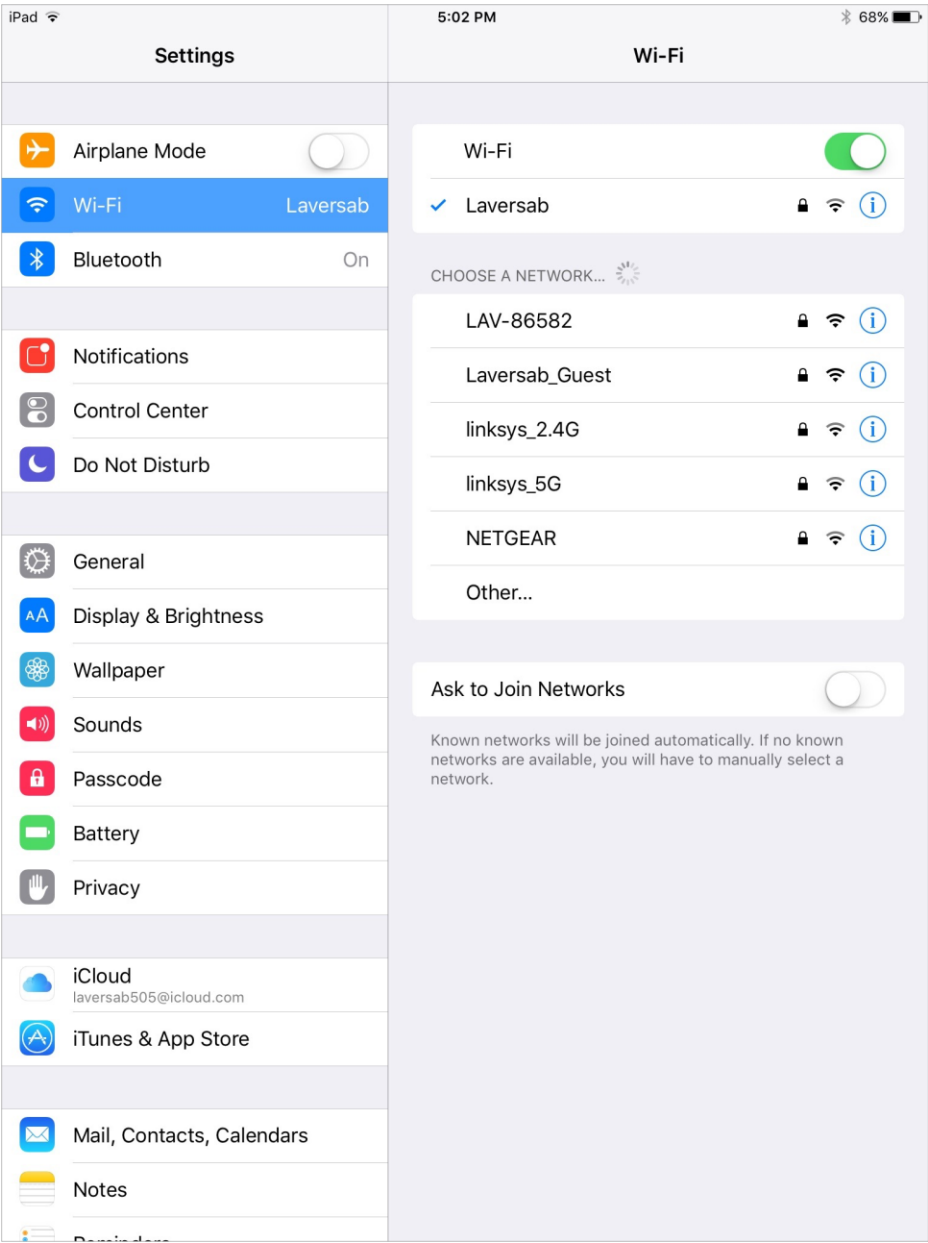

Figure E.1
- b. On the iPad select the 'Settings' icon. Then select the Wi-Fi section. (See Figure E.1 below). The right side will show all the Wi-Fi networks available. One of the networks will be labeled "LAV-xxxxx", where 'xxxxx' is the serial number of the tester you want to connect to.